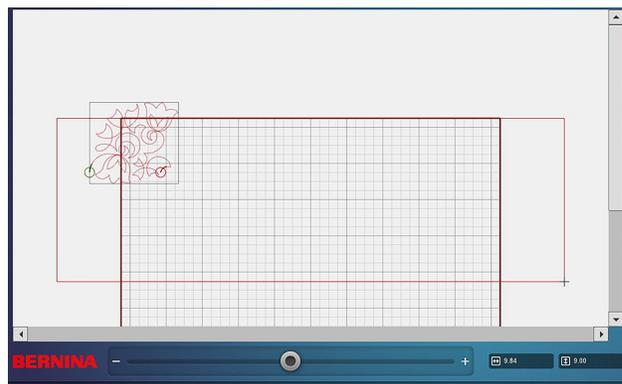

Fig. 51
6. Move the design to the upper left corner of the grid, letting it extend beyond the top and left boundaries of the grid (Fig. 51).